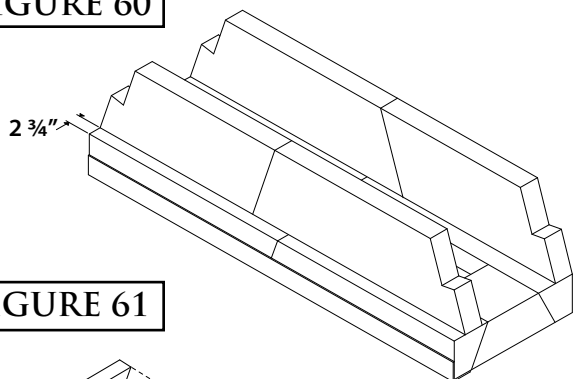

FIGURE 61
**Step 15:** Repeat Step 14 on the front damper support. Set the front smoke dome components  $2\text{-}3/4$ " back from the front face of the front damper support (Figure 61).